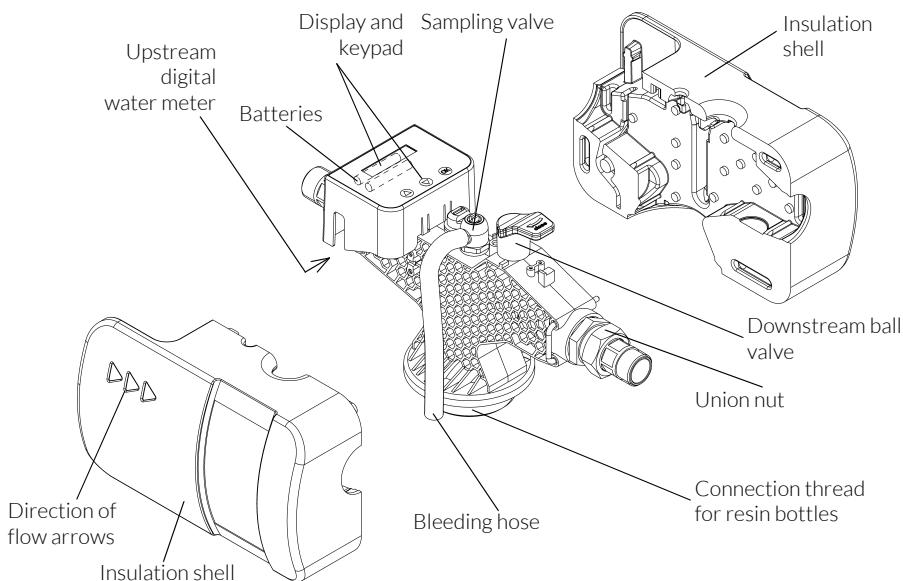

Fig. 3: Function description
The heating circuit filling station must be installed in the direction of flow. The direction of flow is indicated by arrows on the insulation shells. (see fig. 3) If this requirement is ignored, the heating circuit filling station will not work.
Make sure that no water drips onto the electronic components when bleeding the unit. Turn the bleeding hose if necessary (see fig. 3)!
- / Remove both insulation shells (see fig. 3).